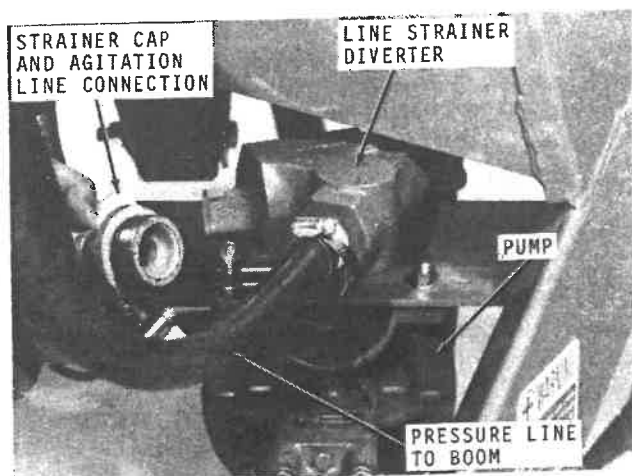

Fig. 10 — Strainer-Diverter
A strainer-diverter (Fig. 10) is normally located on the pressure side of the pump to perform two functions: (1) to strain the solution being pumped to the boom to protect the spray nozzles and (2) to redirect some of the solution back to the tank through the agitation line to keep the spray mixture evenly dispersed in the tank.